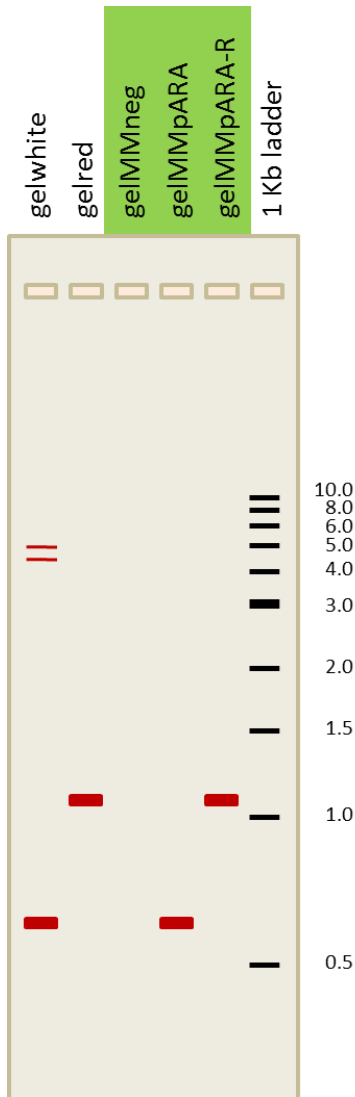

Figure 7.3 The DNA ladder diagram completed with the expected sizes of DNA bands.
4. The DNA ladder serves as a standard because it contains a mixture of DNA molecules of known sizes. By running your samples and the DNA ladder side by side in your gel, you can estimate the actual size in base pairs of unknown DNA molecules. The DNA ladder diagram below shows 10 DNA bands of known sizes. Their sizes are given in kilobase (kb) pairs. 1 kb is 1,000 base pairs (bp). On the diagram predict the positions of DNA bands produced by the possible products found in the gelMMpARA, gelMMpARA-R, gelwhite and gelred tubes by indicating their position on the DNA Ladder Diagram (figure 7.3).
The DNA ladder diagram is reproduced in Figure 7.3 with the expected sizes of the DNA bands.